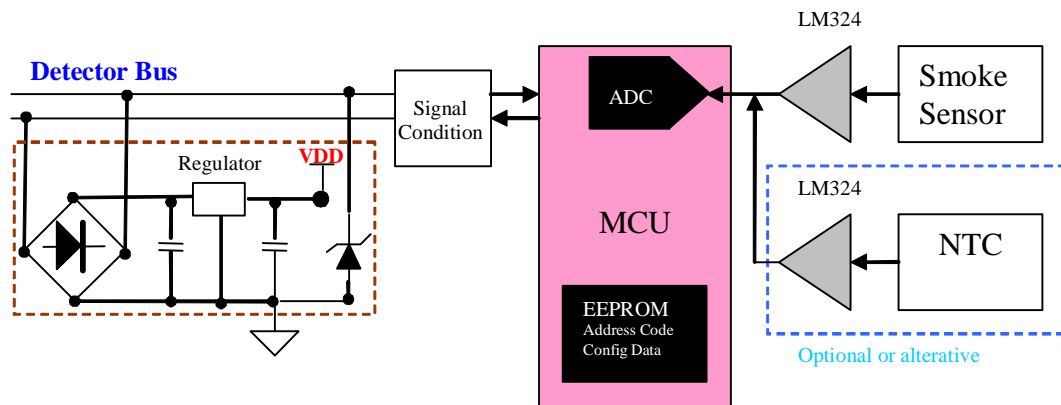

Figure 3. Smoke Detector Block Diagram
- Smoke detector: Figure 3 shows a block diagram of a common smoke detector. Each smoke detector in a loop has a unique address code. Inquiry commands are sent through the bus periodically (for example, every 3 seconds). An inquiry command is received by all smoke detectors and, if one of the detectors detects fire, it sends a message back to the controller.